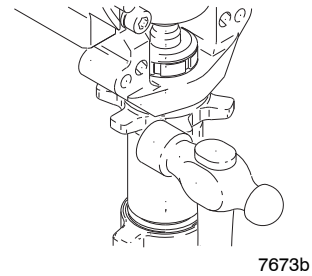

FIG. 10
6. Fig. 10. Loosen locknut by hitting firmly with a 20 oz (maximum) hammer. Unscrew pump.